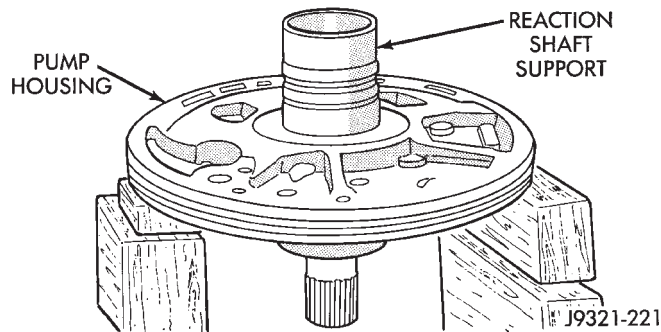

Fig. 129 Assembling Reaction Shaft Support And Pump Housing
(8) Install reaction shaft support on pump housing (Fig. 129).
(9) Align reaction support on pump housing. Use alignment marks made at disassembly. Or, rotate support until bolt holes in support and pump housing are all aligned (holes are offset for one-way fit).